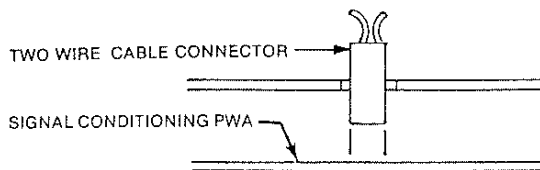

Figure 21. Two Wire Cable
5. Disconnect two wire cable that connects to signal conditioning PWA (Figure 21).